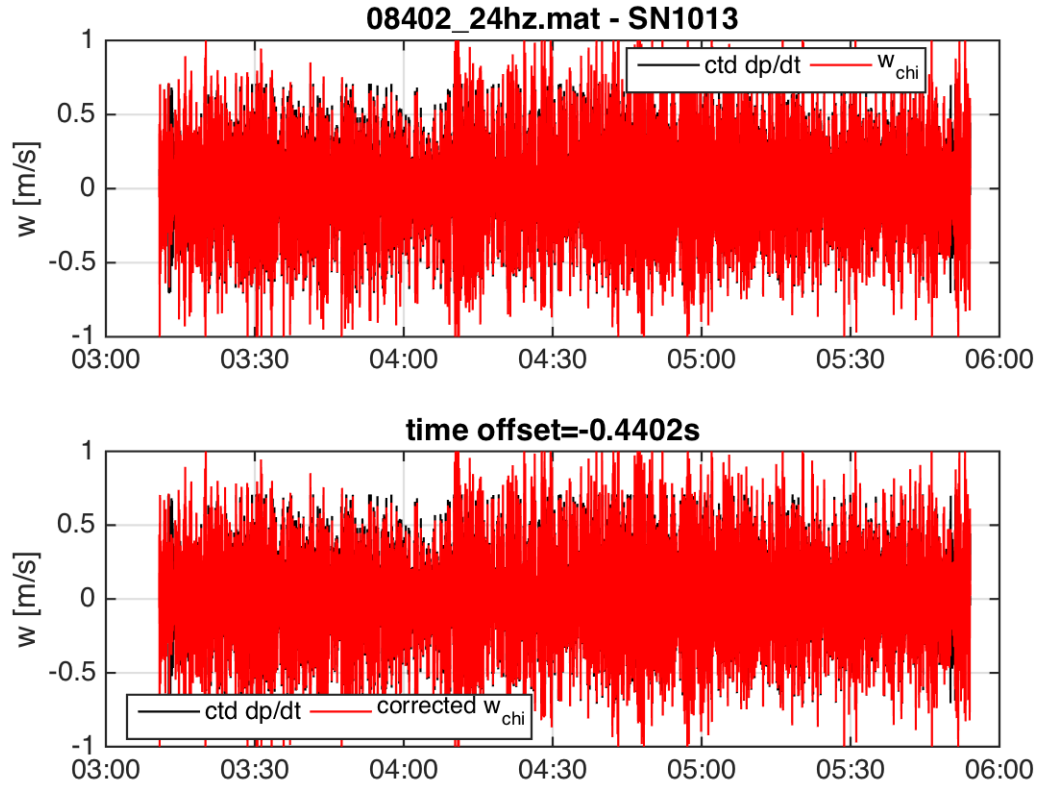

Figure 3: Time series of dp/dt CTD and chipod w . Top is original, bottom is after time-offset applied to chipod.
- `cast_001_w_TimeOffset` (Figure 3)